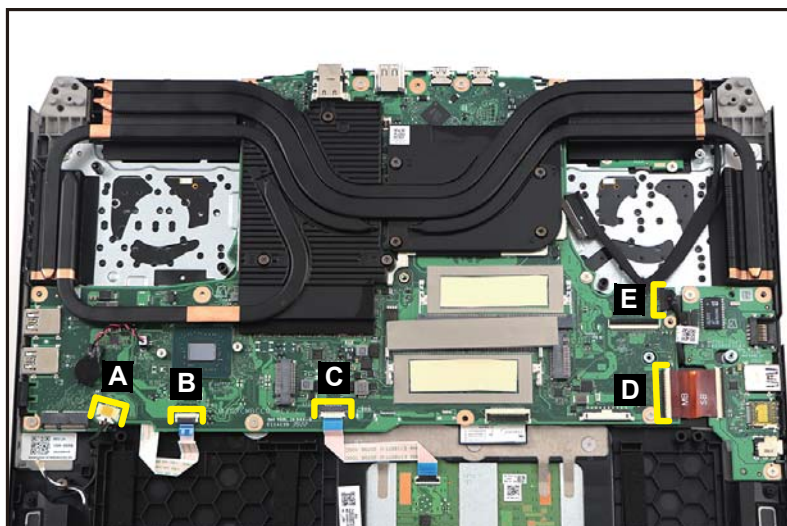

Figure 1-26. Mainboard Removal
1. Disconnect the speaker cable from the mainboard connector (A) (Figure 1-26).
2. Disconnect the keyboard FFC from the mainboard connector (B) (Figure 1-26).
3. Disconnect the touchpad FFC from the mainboard connector (C) (Figure 1-26).
4. Disconnect the USB board FPC from the mainboard connector (D) (Figure 1-26).
5. Disconnect the USB power cable from the mainboard connector (E) (Figure 1-26).